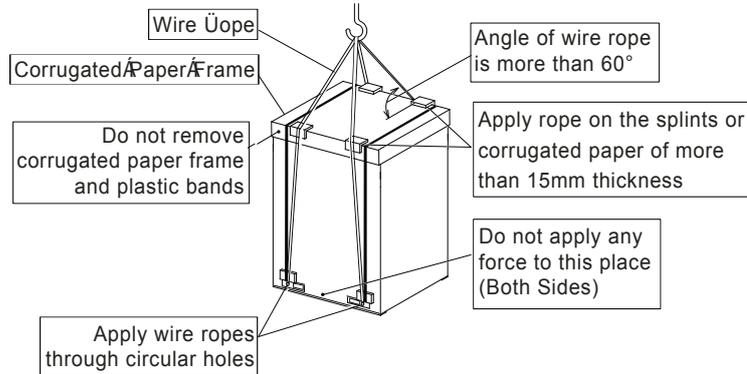

Fig. 3.1 Hanging Work for Transportation
- (1) Do not remove any packing materials.
- (2) Hang the unit under packing condition with two (2) wire ropes, as shown in Fig. 3.1.